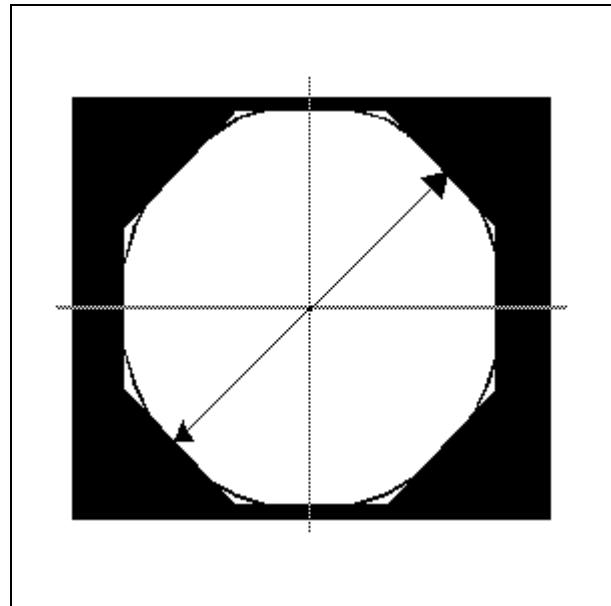

Fig. 11
- Record the inner diameter (key width, Fig. 11) of the octagonal area of the radiation field.